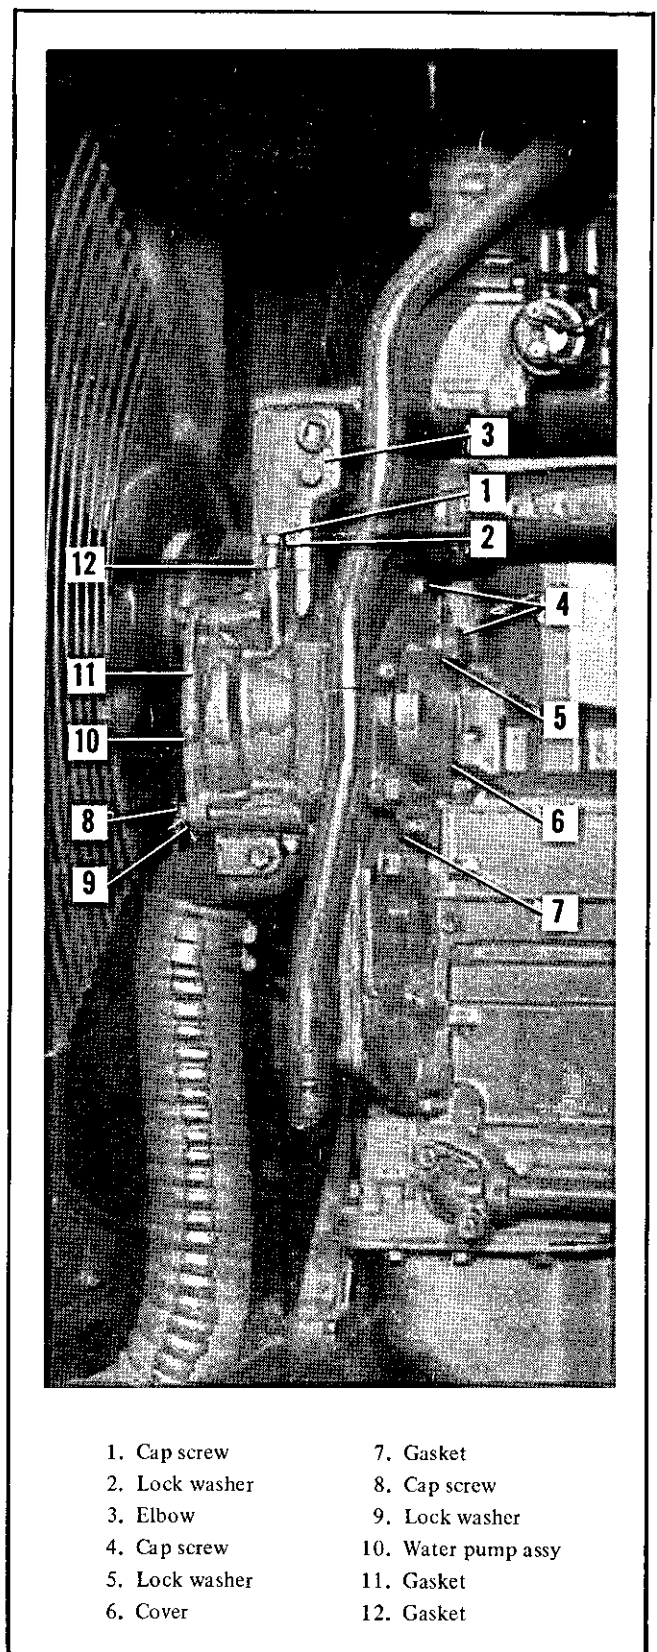

Figure 5-24. Engine water pump
5-39. ENGINE WATER PUMP (Figure 5-24). Remove fan guard, drain coolant from radiator and disconnect lower radiator hose from water pump (refer to paragraph 5-18). Remove cap screws (1) and lock washers (2) from water line elbow (3). Remove cap screws (4), lock washers (5), cover (6), and gasket (7) from rear of front housing. Remove cap screws (8), lock washers (9), water pump (10), and gaskets (11, 12) from front housing. Assemble in the reverse of disassembly.